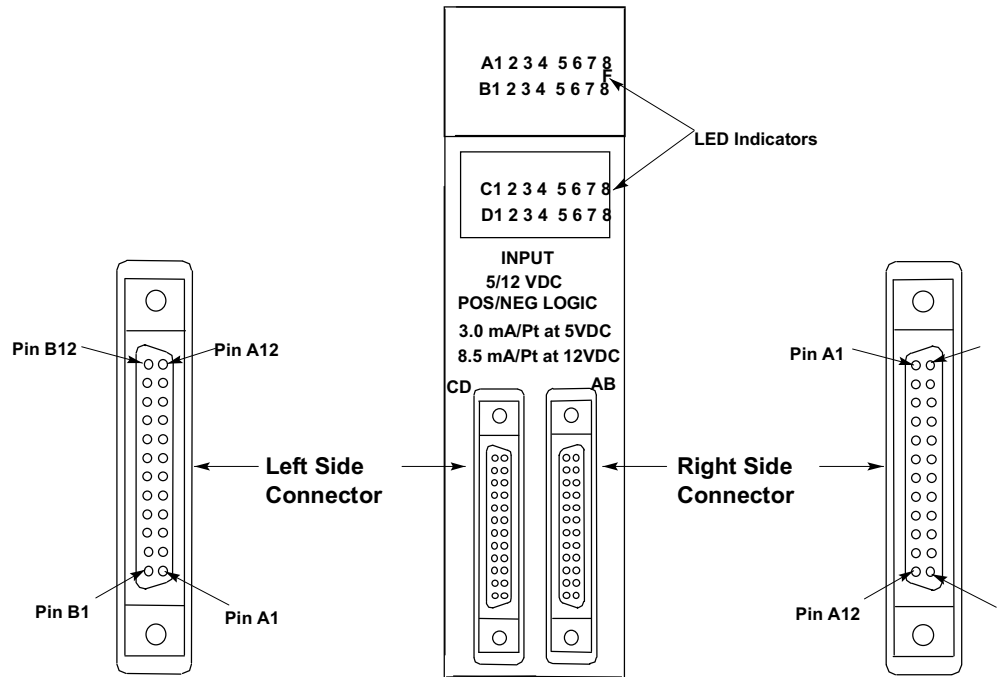

Figure 7-2. Example of 32-Point I/O Module (IC693MDL654) With Dual Connectors
- Connect to a pair of Terminal Block Quick Connect (TBQC) terminal blocks (IC693ACC337) using a pair of GE Fanuc cables. Three lengths of cables are available: 20" (0.5 meter), 3 feet (1 meter), 6 feet (2 meters). The cables come in right hand and left hand types because the connectors on the modules are oriented differently (see figure 7-2). For details on the terminal blocks and cables, please see Appendix J.